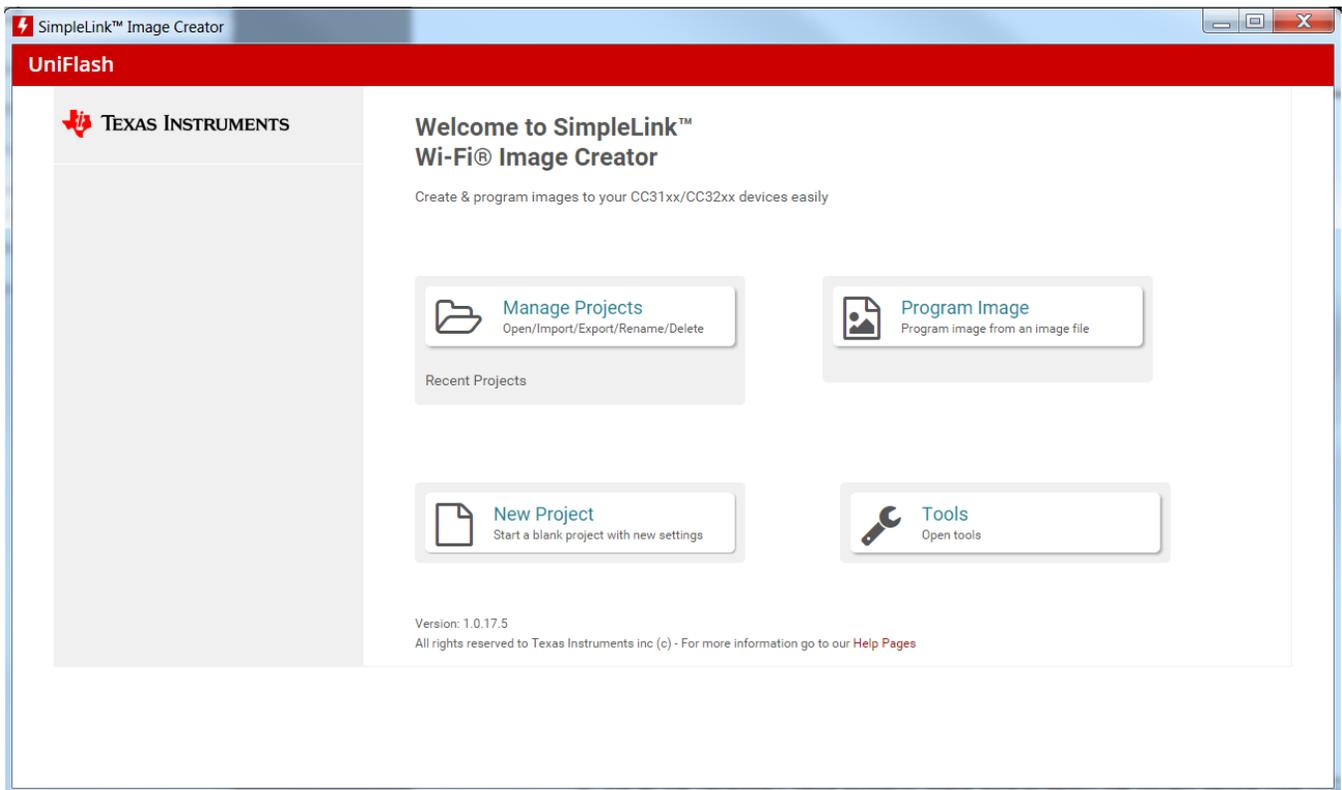

Figure 2-7. New Project
4. Click on New Project, as shown in Figure 2-7.